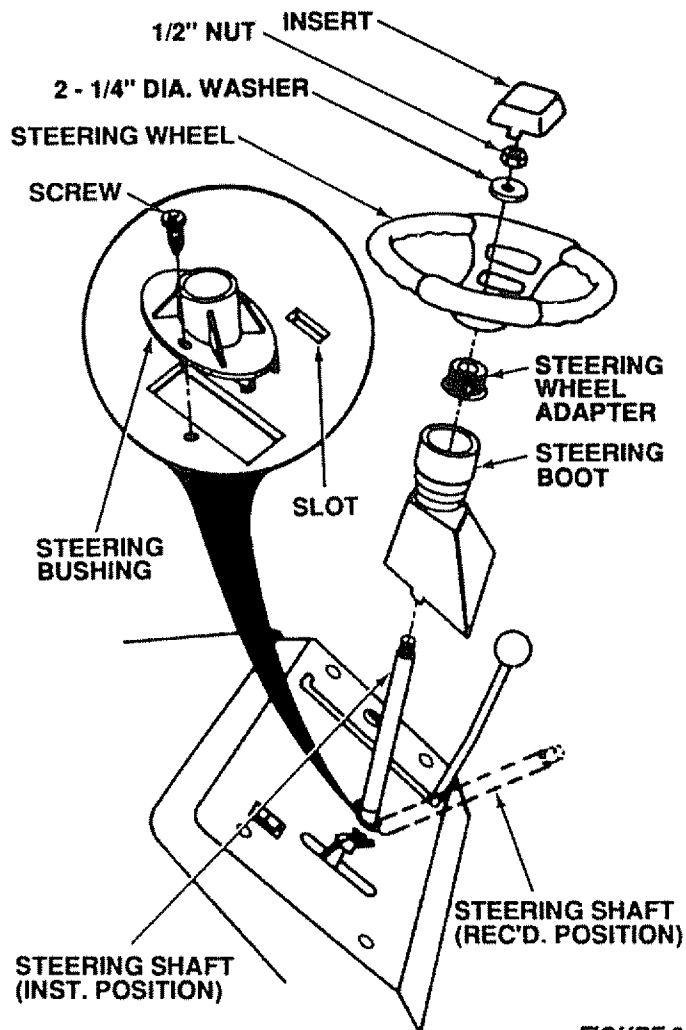

FIGURE 2
- Slide the steering bushing over the steering shaft (Fig. 2).
- Position steering shaft forward until screw holes in dash line up with steering bushing. Install two (2) screws (Fig. 2).
- Place bottom of steering boot over two slots in dash (Fig. 2).